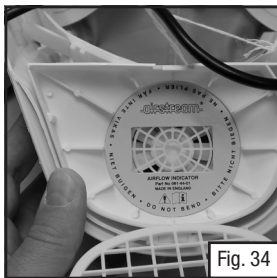

Fig. 34
2. Holding the headgear upside down, place the airflow indicator over the round fan grill (Fig 34). **Ensure that the airflow indicator is not bent or damaged.**